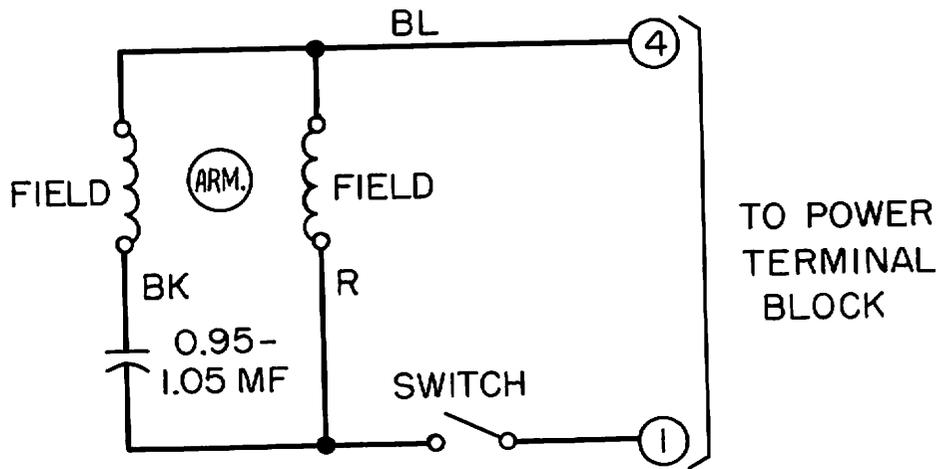

Figure 4
2.03 Figure 4 shows the circuit schematic for the 60-cycle, 110-volt ac synchronous motor arranged for clockwise or counterclockwise direction of rotation.